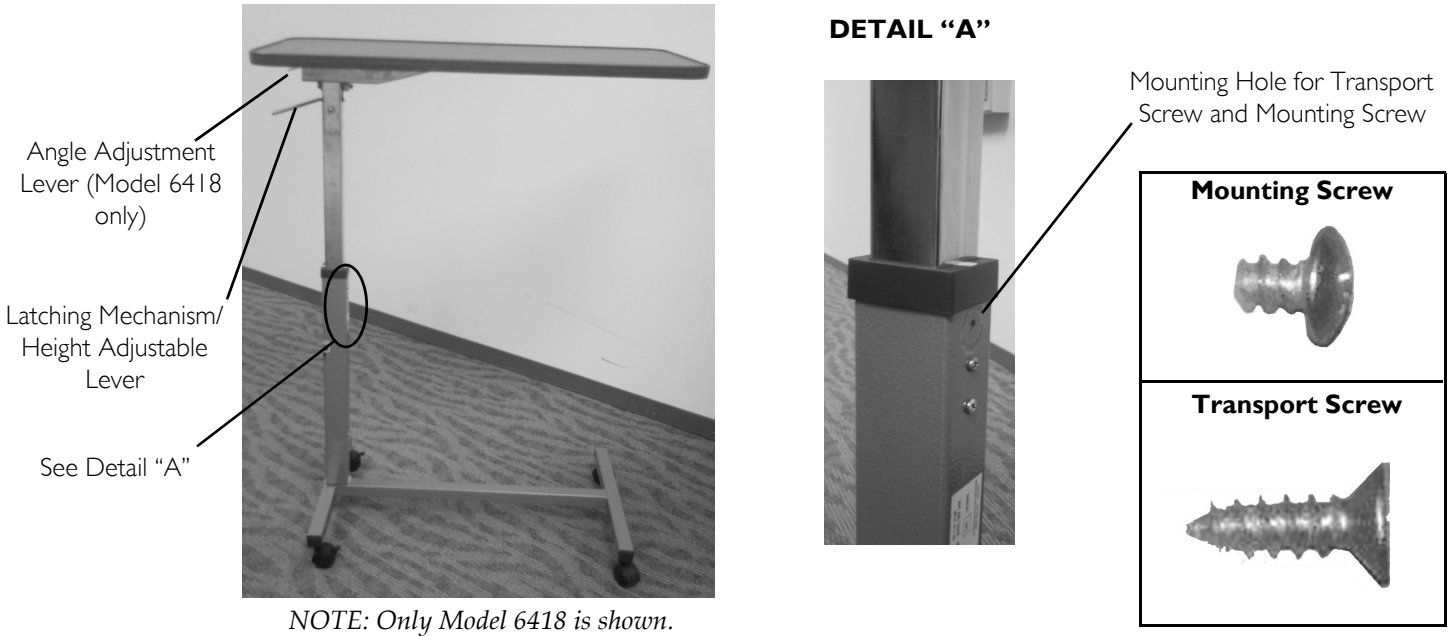

FIGURE 2 Adjusting Table Height - Adjusting Table Angle
NOTE: For this procedure, refer to FIGURE 2 on page 3.
2. Remove mounting screw and install the transport screw to lock mast in place (FIGURE 2).